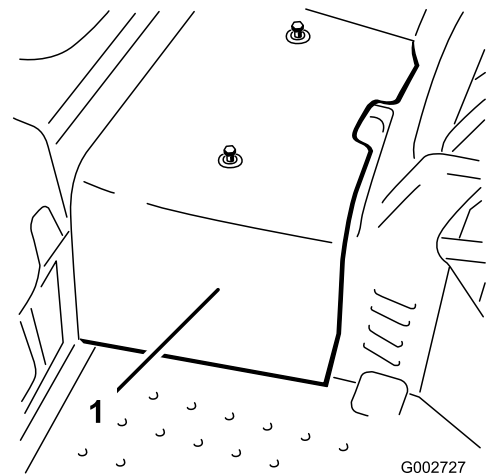

Figure 40
2. Remove the 2 screws securing the center shroud to the machine and remove the shroud (Figure 40).